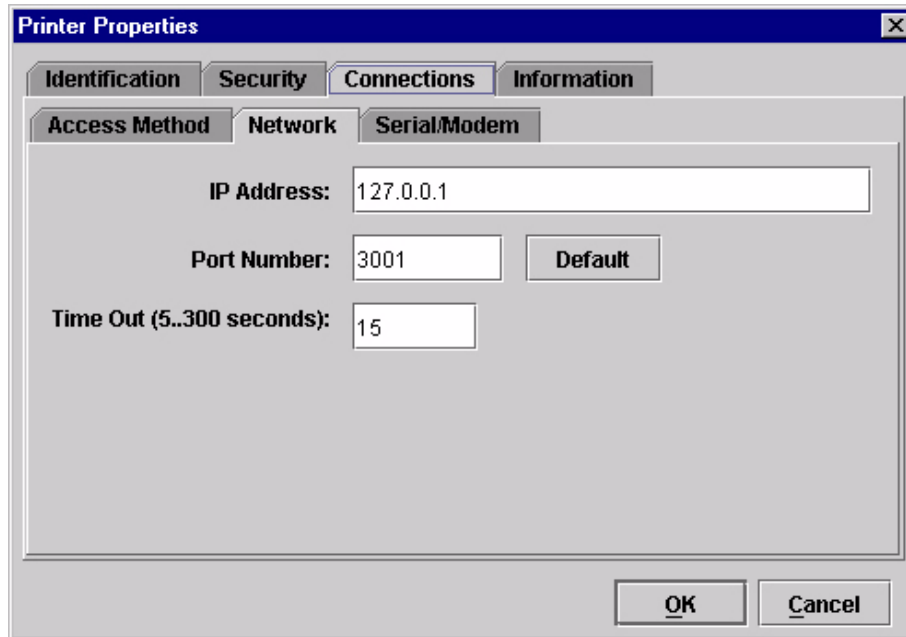

Figure 4. Printer Properties: Connections Tab – Network Sub-Tab
9. Click the **IP Address** field and then type the IP Address of the printer you want to access. Follow the format shown in Figure 4.